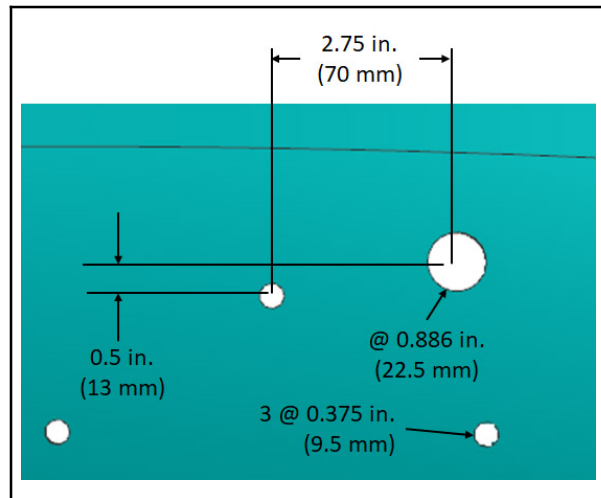

FIG. 5
- Drill three 0.375 in. (9.5 mm) holes into the areas marked onto the front shroud in the previous step. **Do Not** drill into any parts/ components located behind the front shroud. (Fig. 5)
- Measure and mark a location for the 0.886 in. (22.5 mm) to be drilled into the front shroud. (Fig. 5)
- Drill a 0.886 in. (22.5 mm) into the front shroud. **Do Not** drill into any parts/ components located behind the front shroud. (Fig. 5)